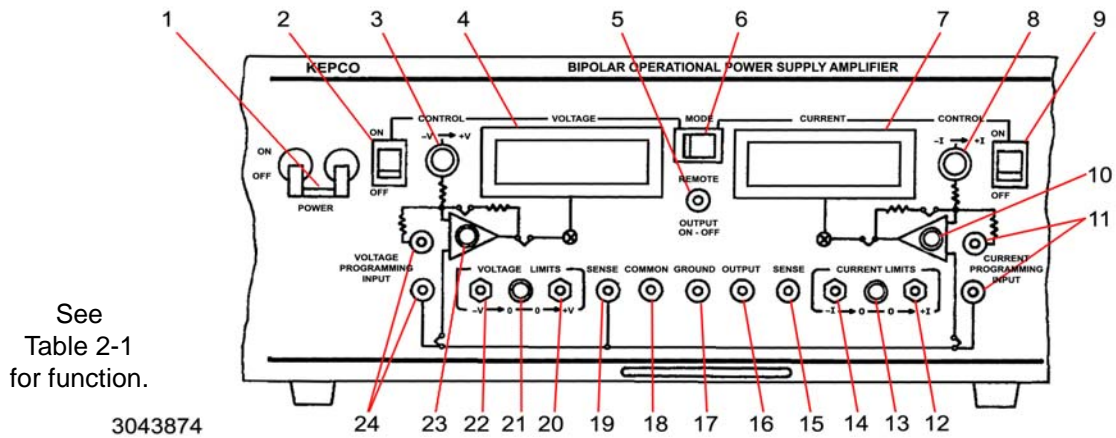

FIGURE 2-1. BOP 5-20DL, TERMINATIONS AND CONTROLS, FRONT PANEL
- a) Front Panel: Refer to Figure 2-1. See Table 2-1 for an explanation of terminations, controls and indicators.